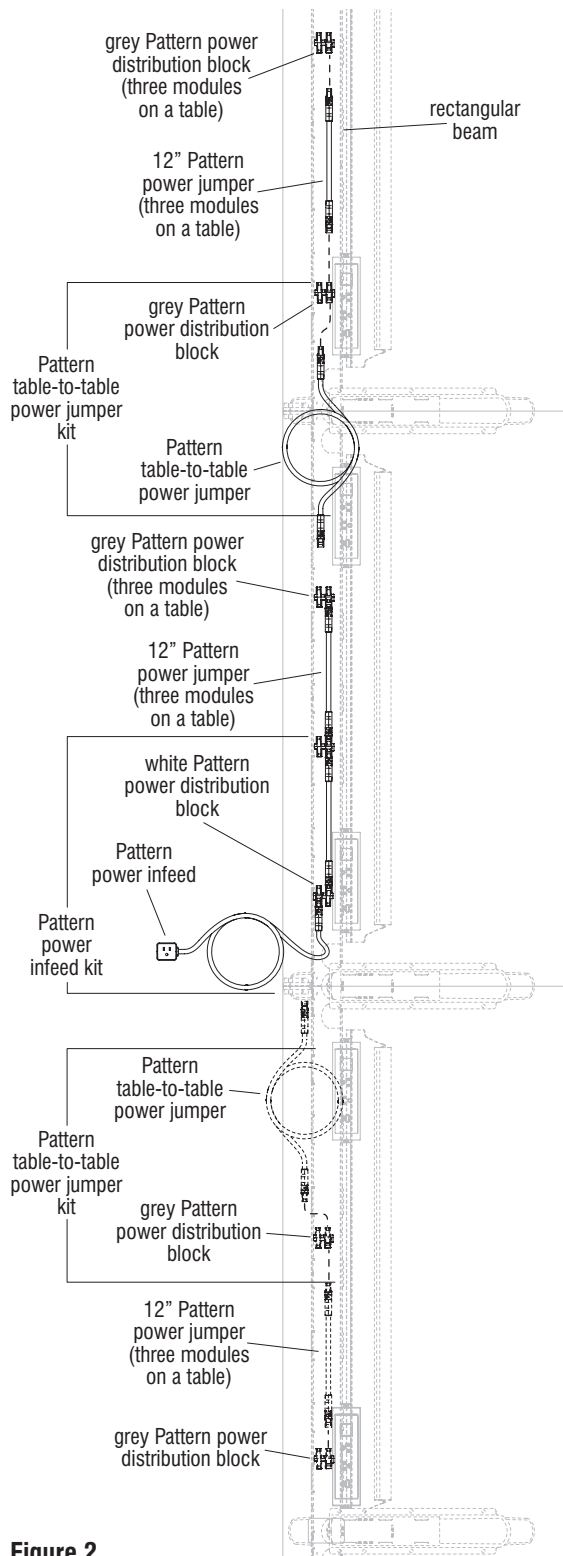

Figure 2
1. Take a Pattern table-to-table power jumper in hand and plug the jumper's male connector end into a grey Pattern power distribution block as shown in Detail B on page 36 and Figure 2 this page. Orient the table-to-table power jumper's female connector end out of the trough and toward the previous table, in the direction of the table with the Pattern table-to-table power jumper kit (Figure 2 & page 36, Detail B).
2. Step 1 above assembles the Pattern table-to-table power jumper kit (Figure 2). If the table being assembled will have three power modules, an additional 12" power jumper and grey power distribution block must be added after the Pattern table-to-table kit (Figure 2 & page 36, Detail B).
4. If the Pattern power infeed is located in-between two tables, connect the closest Pattern table-to-table power jumper, not connected to the run of tables, to the open available socket on the white Pattern power distribution block (Figure 2 & page 36, Detail B).